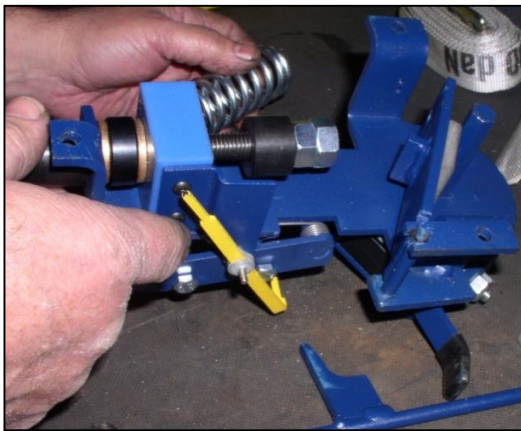

Figure 7.57
6. Turn the film tension knob clockwise to decrease the tension shaft and remove the compression spring (Figure 7.57). The tension shaft is reverse thread.